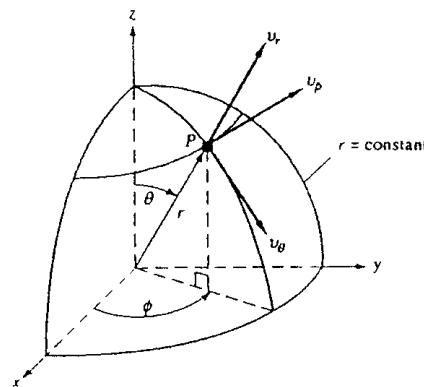

Fig. P4.12
**4.12** Spherical polar coordinates ( $r, \theta, \phi$ ) are defined in Fig. P4.12. The cartesian transformations are